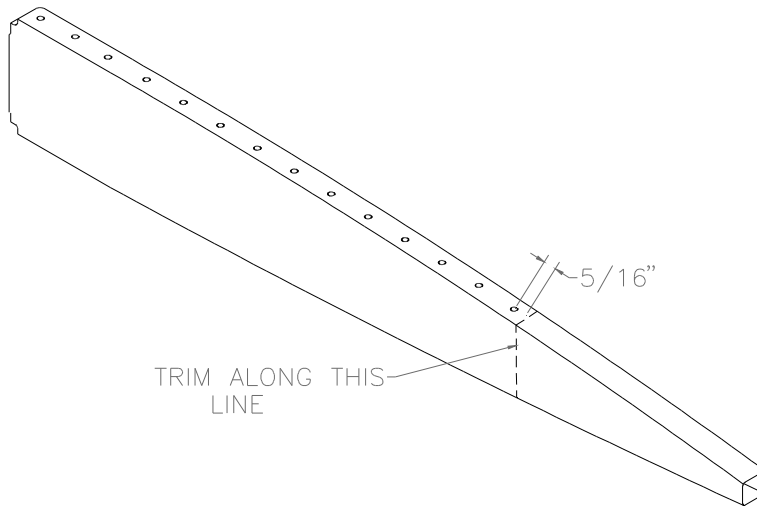

Figure 3.4.1
- 1) Mark the center two ribs  $5/16$ " from the last hole. Trim at this mark. Figure 3.4.1.